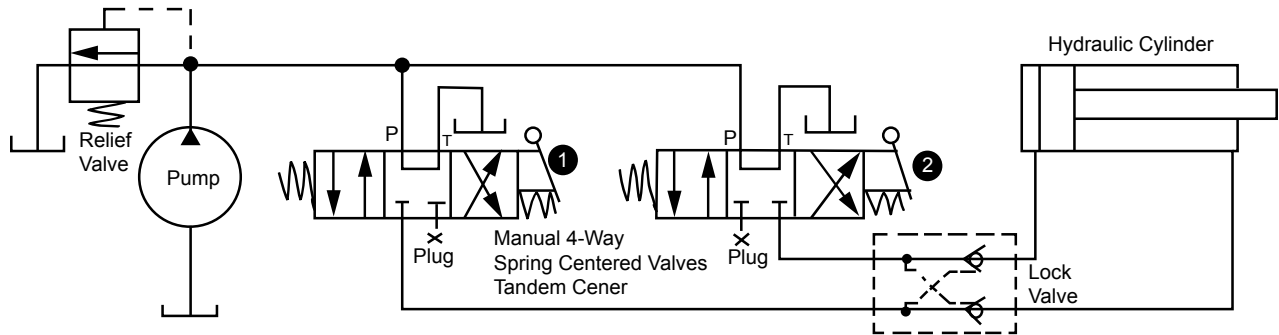

Figure 1. Manually operated 2-hand control for hydraulic cylinder for oil volume less than 30 GPM.
**Figure 1.** The operator must shift both Valves 1 and 2 to get the cylinder to move. If only one of them is shifted, the pump oil will simply by-pass to tank through the spool of the other one. This circuit gives 2-hand control in both forward and reverse. The lock valve prevents the cylinder from drifting or sagging if only one of the control valves is shifted.